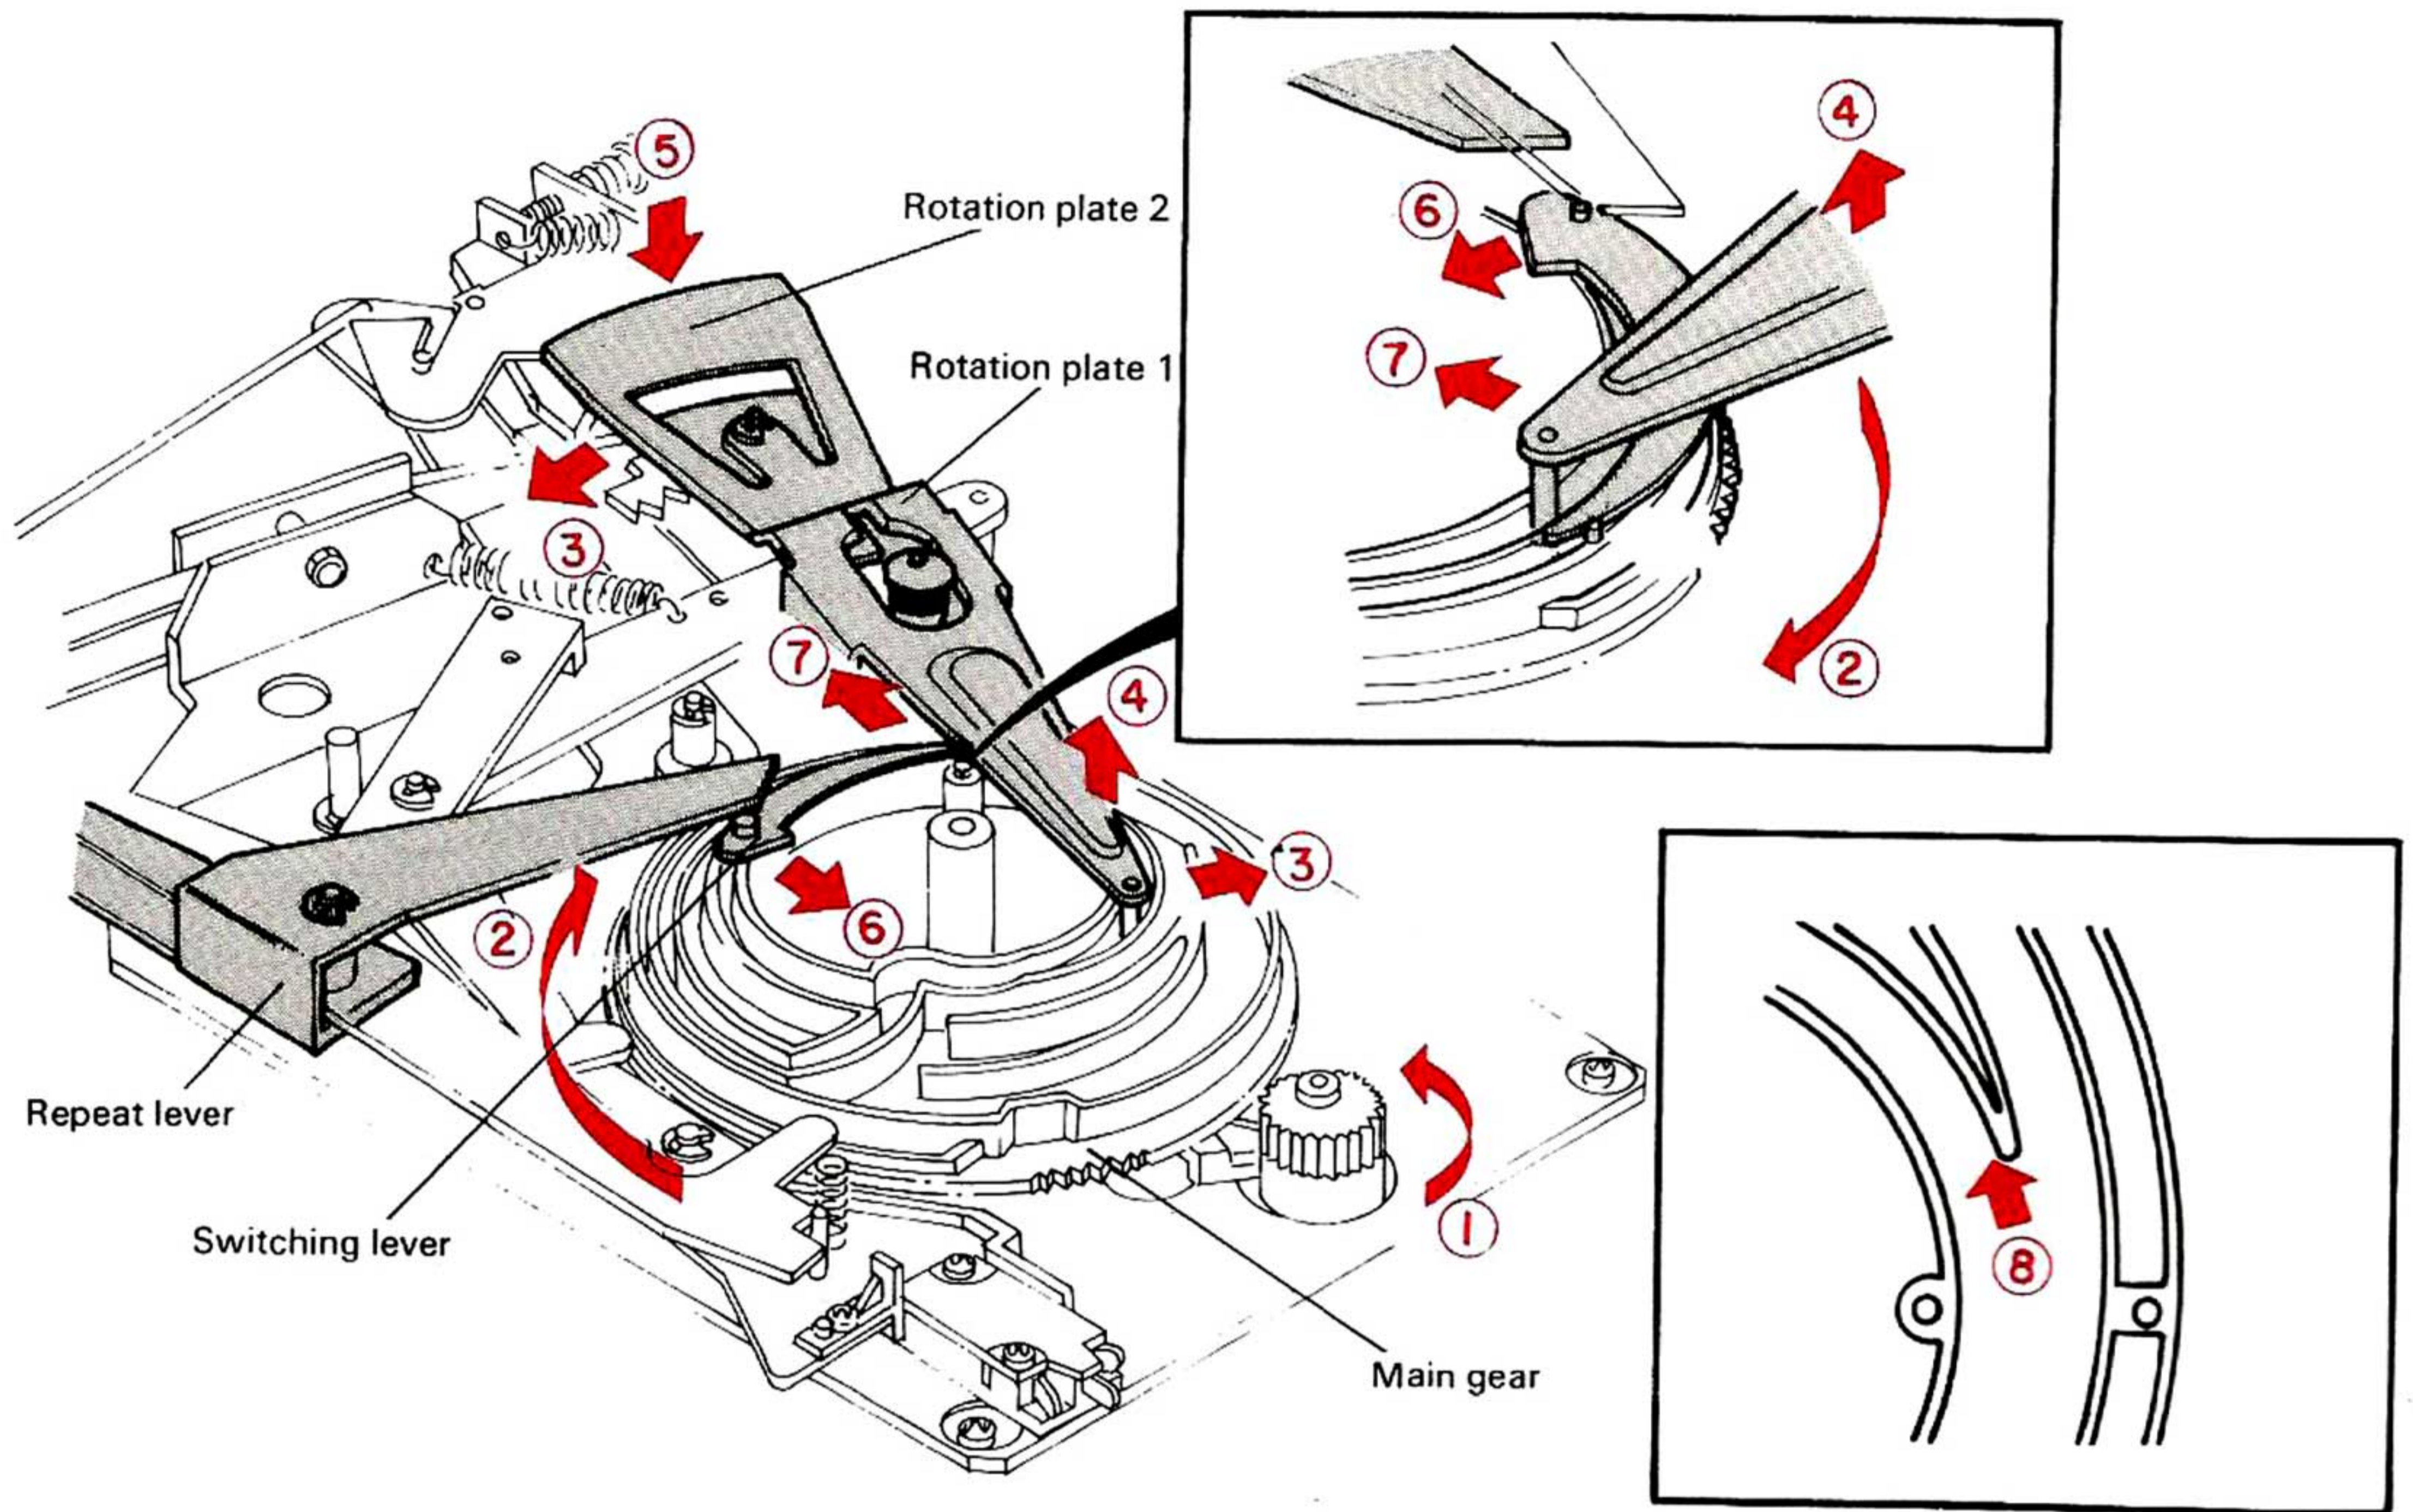

Fig. 3 Rotation of Main Gear
When the turntable is rotating in direction ①, the main gear rotates in direction ②, resulting the rotation plate 1 to move in direction ③. As the depth of the main gear groove becomes shallower, the rotation plate rises in direction ④ and the rotation plate 2 which is fixed in the other end of the rotation plate 1 is lowered in direction ⑤. As a result of this motion, the toner arm rises (Fig. 3).
When the main gear rotates further, the switching lever is shifted in direction ⑥ by the repeat lever and the rotation plate 1 enters the inner groove of the main gear (in directions ⑦ and ⑧) (Fig. 3).